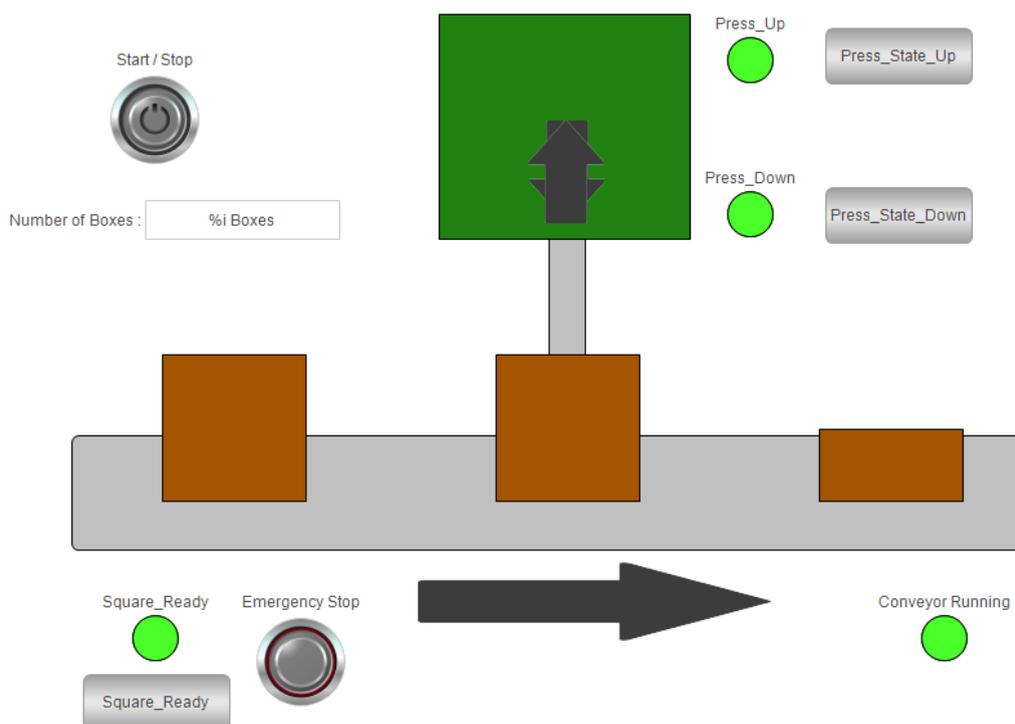

Figure 39 : The visualization made for this process
- With Ladder, you can turn a normal contact into a negative contact by selecting it and clicking on “/”. If you click on “P” or “N”, you can transform the contact into a “Rising Edge” (P) or “falling edge” detection (N).
- In SFC, it is possible to create a Ladder or ST transition directly by double-clicking on a new transition (on the diagram), and selecting “Copy reference” (figure 39). After that, a new window appears and you can directly name your transition and select the desired language. Notice that you still have to add the coil manually.